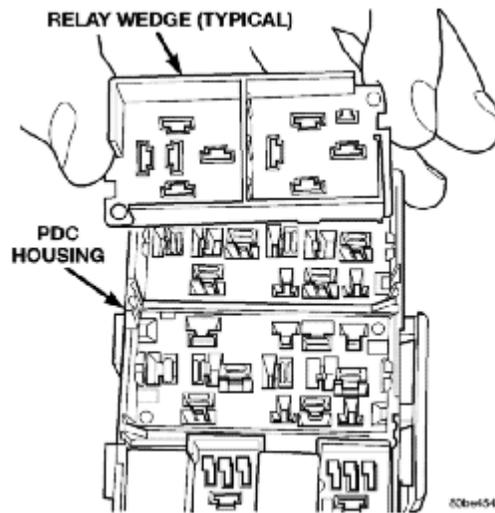

Fig. 7 PDC Relay Wedge Remove/Install
- (1) Remove the PDC housing lower cover.
- (2) Remove each of the relays from the PDC relay wedge to be removed.
- (3) From the bottom of the PDC housing, use a small screwdriver or a terminal pick tool (Special Tool Kit 6680) to release the two latches (yellow) that secure the relay wedge to the PDC relay cassette.
- (4) From the top of the PDC housing, remove the relay wedge from the PDC relay cassette (Fig. 7).